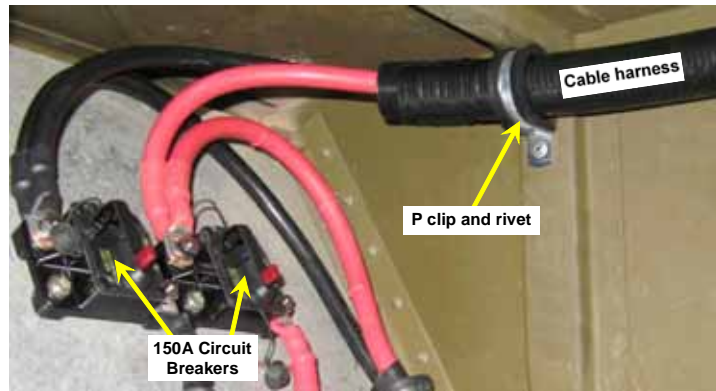

Figure 32 Securing the Crossover-to-load Centre Harness - Rear
- (9) Inside the battery enclosure, temporarily fit the 6 mm lugs on the ends of the red and black cables to the upper terminals on the circuit breakers as shown in Figure 32. The final connections on both ends of this harness will be made later in this procedure.